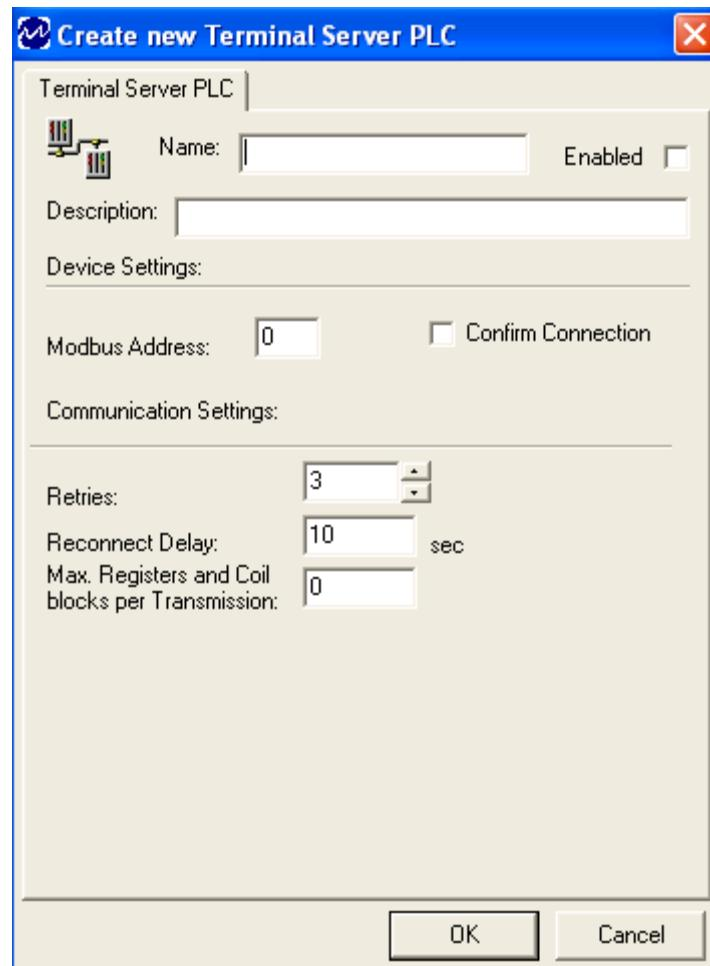

Figure 12 - Create New Terminal Server PLC Window
The **Create New** window (Figure 12) displays the settings available for a connection to a Terminal Server PLC.
5. The **Create New** window (Figure 12) appears.